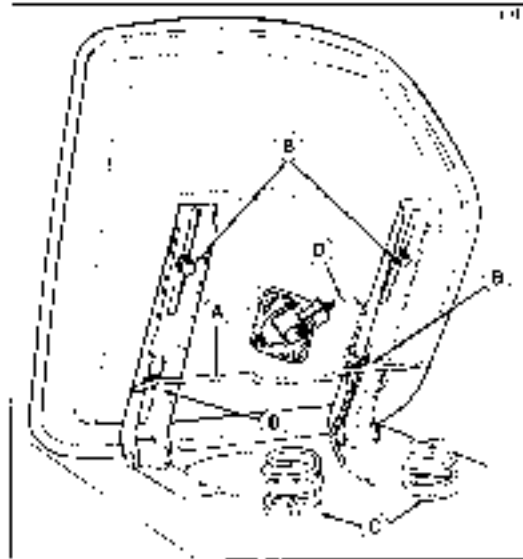

Figure 39. Seat Adjustment
1. Unlatch seat by pushing down on back of seat and unlatching latch bar (A, Fig. 39). Make sure latch bar latches in place after lowering seat.
2. The seat can be moved forward or back for operator comfort. Loosen the four screws (B) and move the seat to the desired position. Tighten the screws.
3. Make sure there is enough slack in wire (D) for seat to be adjusted fore, aft, and raised and lowered.
4. The springs (C) can be moved to the wide holes for light operator. Put up and adjust the seat springs.